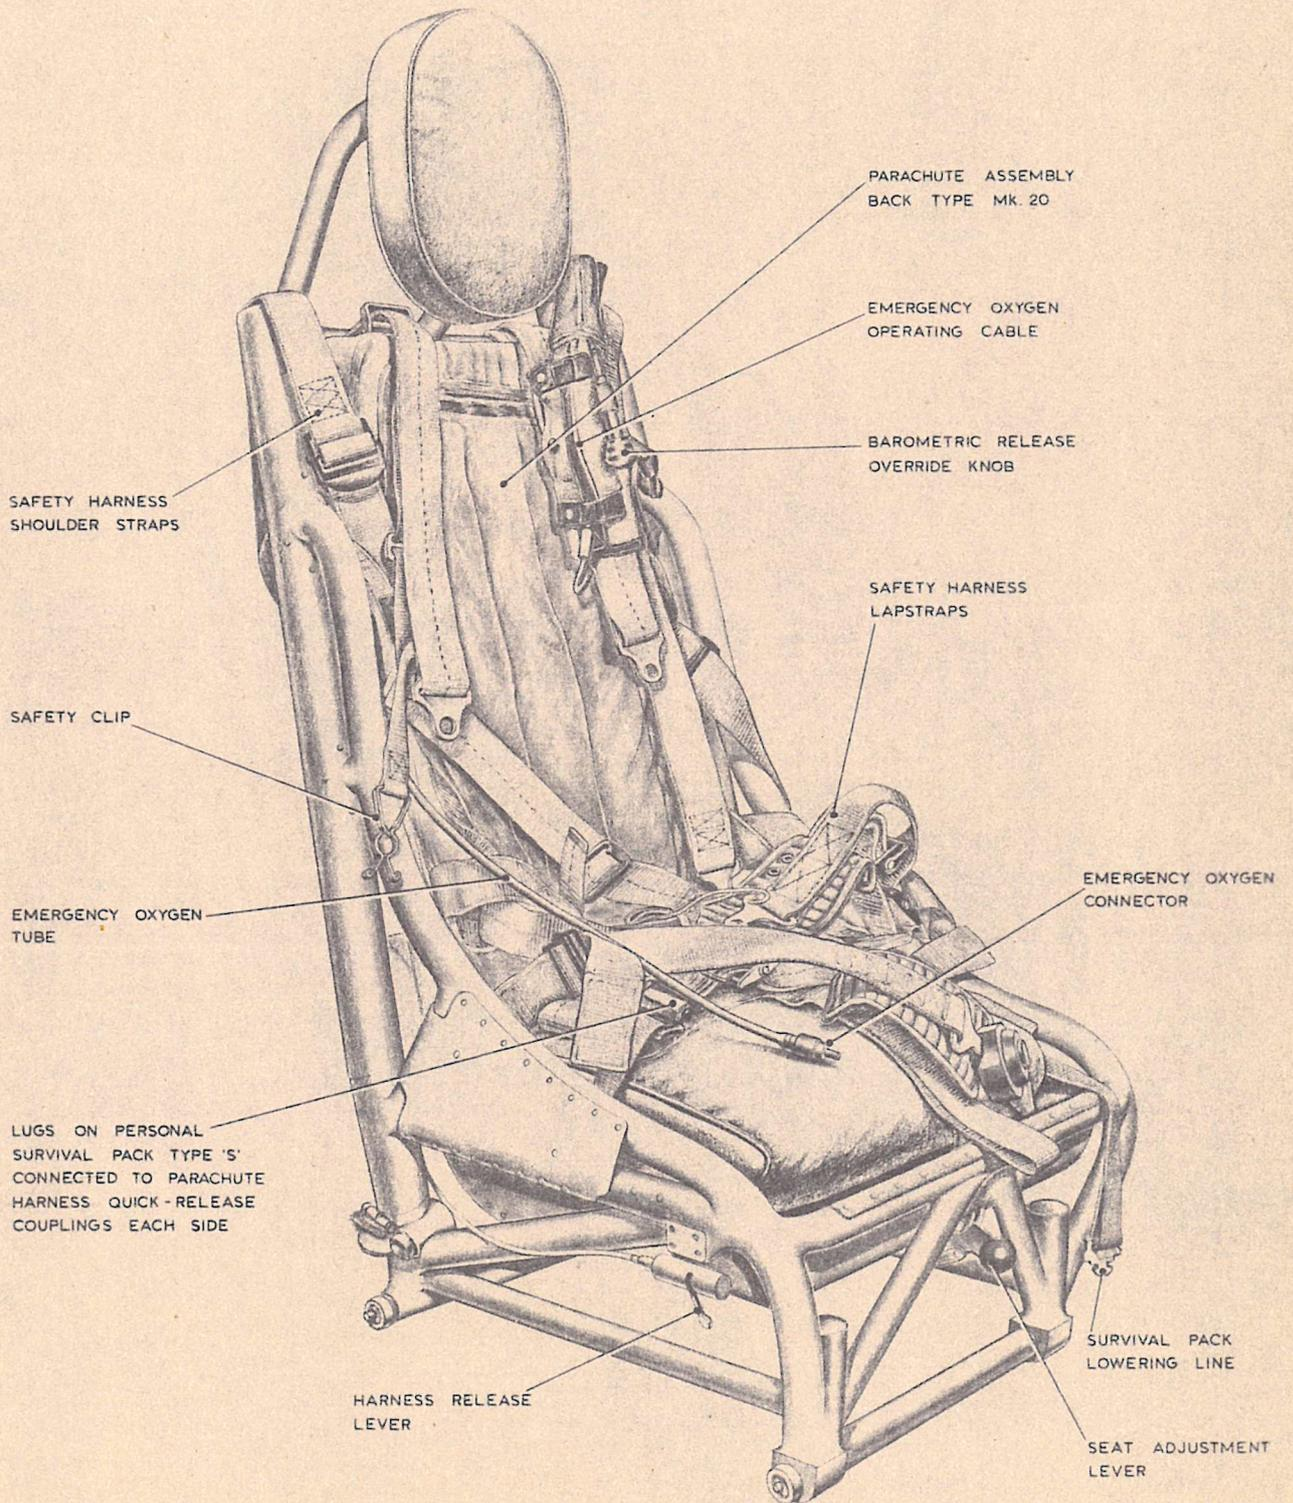

Fig. 7. The static seat equipped
21. To equip each of the static seats proceed as follows (*fig. 7*): -